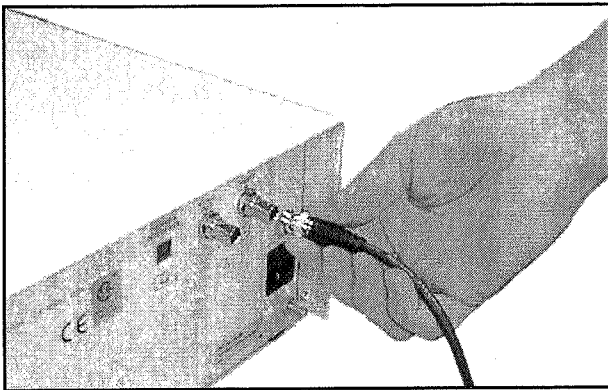

Figure 2
Plug a video camera into the VIDEO IN connector (10) on the rear panel (see figure 2). This input is 75 ohm terminated. Use the buffered VIDEO OUT (11) to connect to a monitor or video peripheral if desired.